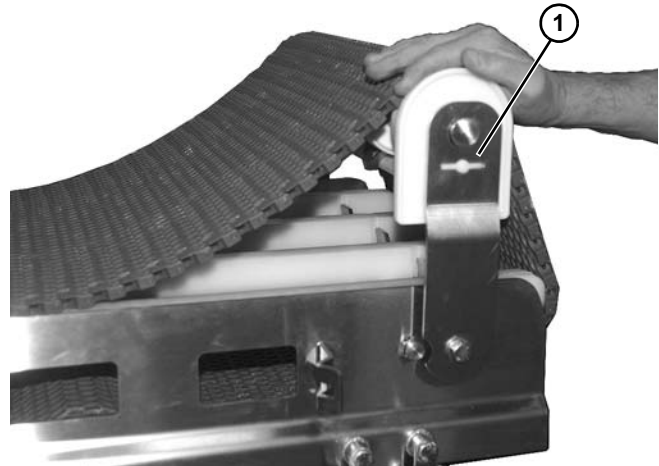

Figure 32
3. Rotate idler end (Figure 32, item 1) upward as shown.